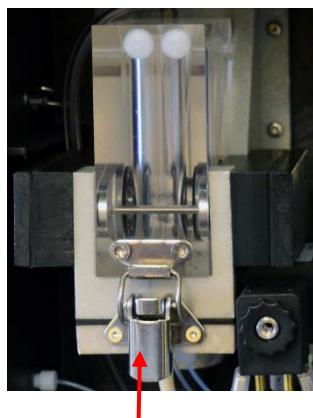

Figure 32
4. Release the spring lock (see figure 32), tilt the measuring chamber upwards and take it out.